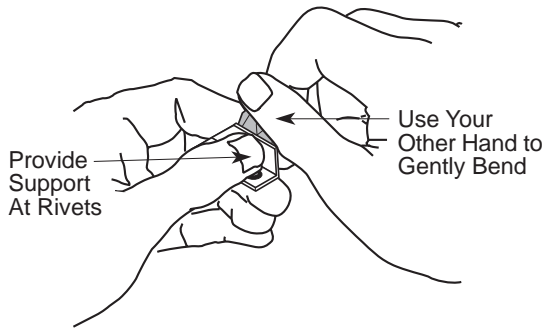

Figure 4-1: Adjusting the Thermocouple
- Grasp the aluminum base of the thermocouple on either side of the rivets to provide support as shown in Figure 4-1. Using your fingers, gently bend the thermocouple where the “guitar pick” sensor meets the aluminum base.